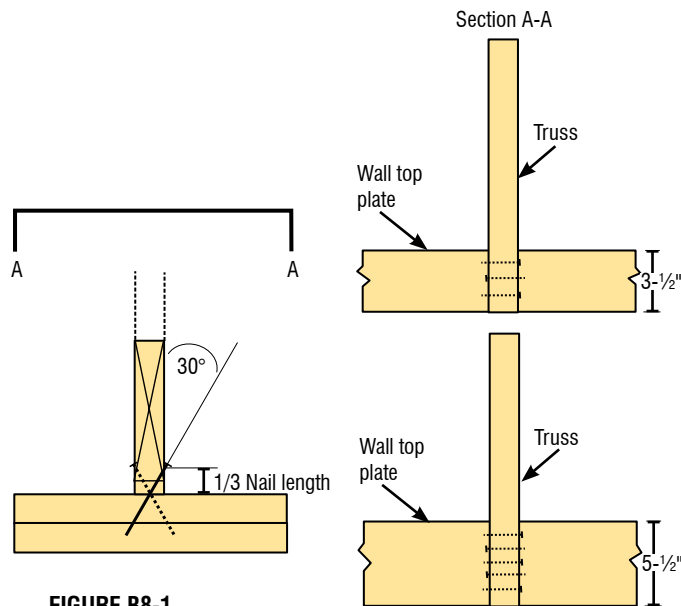

FIGURE B8-1
To get the most out of a Toe-nailed Connection, it is important to Toe-nail correctly. Figure B8-1 illustrates proper Toe-nailing of a Truss to the wood top plates of a bearing wall. The dimensions shown are only meant to serve as an approximate guide. Toe-nailing through a Metal Connector Plate of a Truss does not adversely affect the uplift capacity of the Connection, provided the Truss Plate and lumber are not damaged during installation.
- ✓ When installing Toe-nails, use care to avoid splitting the wood. The Building Designer typically provides nail spacing and minimum end and edge distances. In lieu of such guidance, a well accepted rule is to limit the total number of Toe-nails to three (total, including both sides) for full bearing on a 2x4 top plate (i.e., 3-1/2") and five (total, including both sides) for full bearing on a 2x6 top plate (i.e., 5-1/2") (see Figure B8-1). When using Toe-nails to attach the Top or Bottom Chord of a Truss to the side of a Girder Truss or wood beam, the number of nails used is generally limited to a maximum of three Toe-nails for 2x4 chords and four Toe-nails for 2x6 chords.
Table B8-1 provides the uplift and lateral Load capacities of Toe-nailed Connections consisting of three, four or five nails for various types of nails and species of wood. The table assumes the nails are installed a distance of either L/3 (i.e., length of nail divided by 3) or 1-1/8" from the top surface of the plate (support) (Figure B8-1, page 63). The values listed are for normal Load duration and are permitted to be multiplied by the Load duration factor (Table B8-2, page 66) appropriate for the specific application.